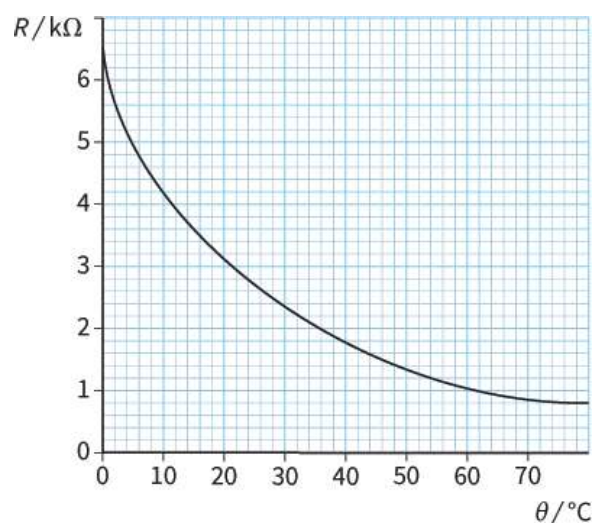

Figure 10.9: The resistance of an NTC thermistor decreases as the temperature increases. For Question 5.
- 5 The graph in Figure 10.9 was obtained by measuring the resistance R of a particular thermistor as its temperature θ changed.
To understand a little more about the origins of resistance, it is helpful to look at how the resistance of a pure metal wire changes as its temperature is increased. This is shown in the graph in Figure 10.11. You will see that the resistance of the pure metal increases linearly as the temperature increases from 0 °C to 100 °C. Compare this with the graph in Figure 10.9 for an NTC thermistor; the thermistor's resistance decreases very dramatically over a narrow temperature range.